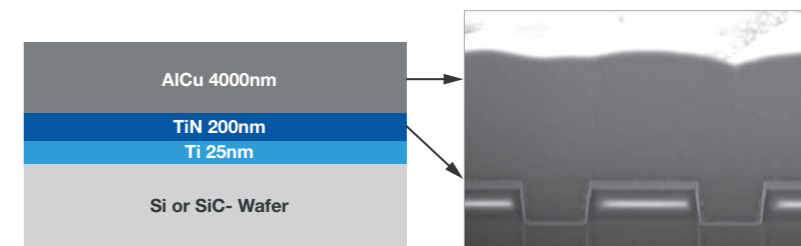

Figure 2b: Typical backside process
Nevertheless, the new challenges imposed by the demand for higher frequency, wider bandwidth and better power handling actually put constraints on each other. To utilize the piezoelectric coefficient along the c-axis (d_{33}) of the Al1-xScxN Wurtzite lattice for filtering, a preferential grain orientation, the c-axis $\langle 0002 \rangle$ perpendicular to the film surface, is required for the piezo-layer. A measure of how well the Al1-xScxN grains are aligned is the rocking curve (RC) of the $\langle 0002 \rangle$ peak in the X-ray diffractometry. Generally speaking, a narrower RC FWHM (full width at half maximum) results in a higher kt^2 and Q factor. However, reducing the film thickness usually leads to broader RC FWHM (Figure 2b). Additionally, thinner films tend to show more compressive stress (Figure 2c) due to the lowered wafer temperature during deposition. This again deteriorates the performance of thin films for high frequency